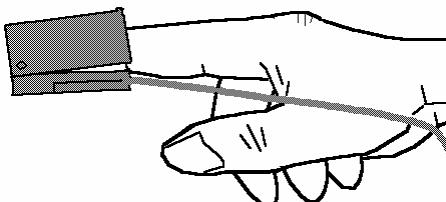

Figure6.2 Sensor Placement
- The clip should be placed on the finger correctly, do not reverse the placement (see Figure 6.2), otherwise the measurement result will be incorrect.
- Place the finger sensor as figure6.2 shows